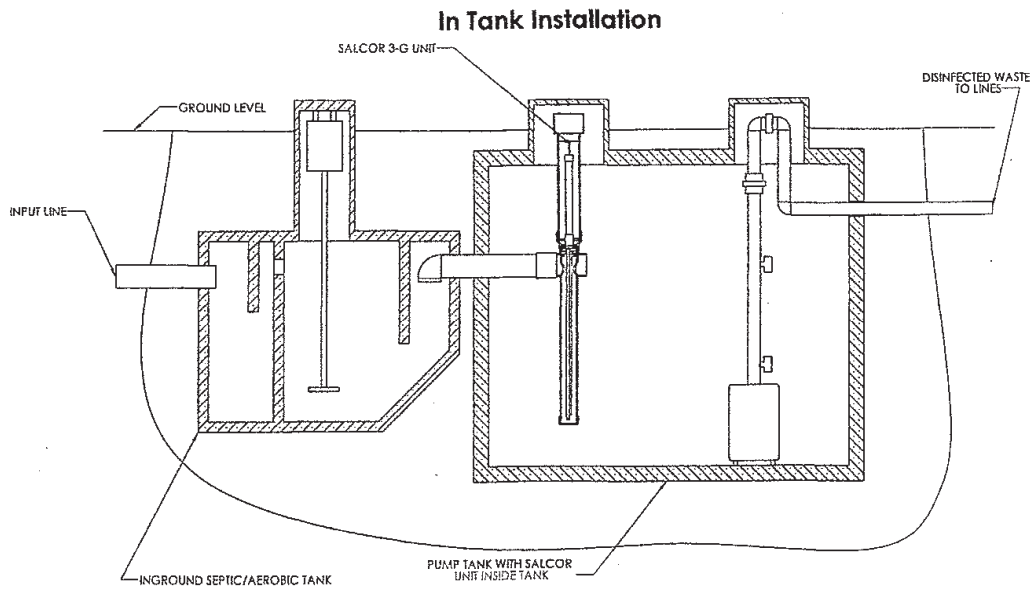

Figure 3
2. In a Pump Tank Installation: Couple the UV Unit inlet pipe to the pretreatment unit exit pipe at the entrance of the pump tank. See ***Figure 3*** (page 8).